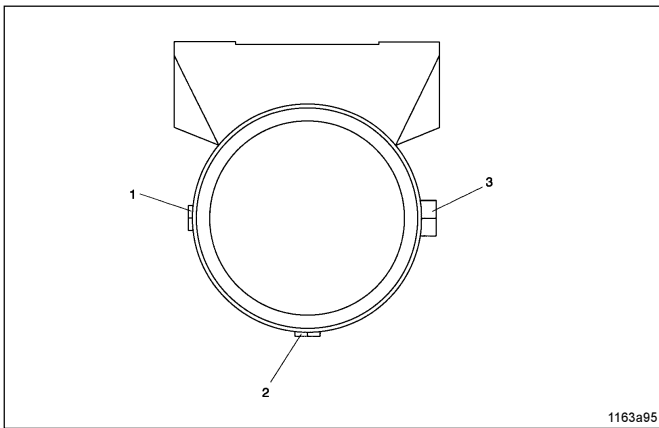

Fig. 8 - Arrangement of the pump elements
- If several pump elements are to be installed, the installation arrangement shown in Fig. 8 must be adhered to.